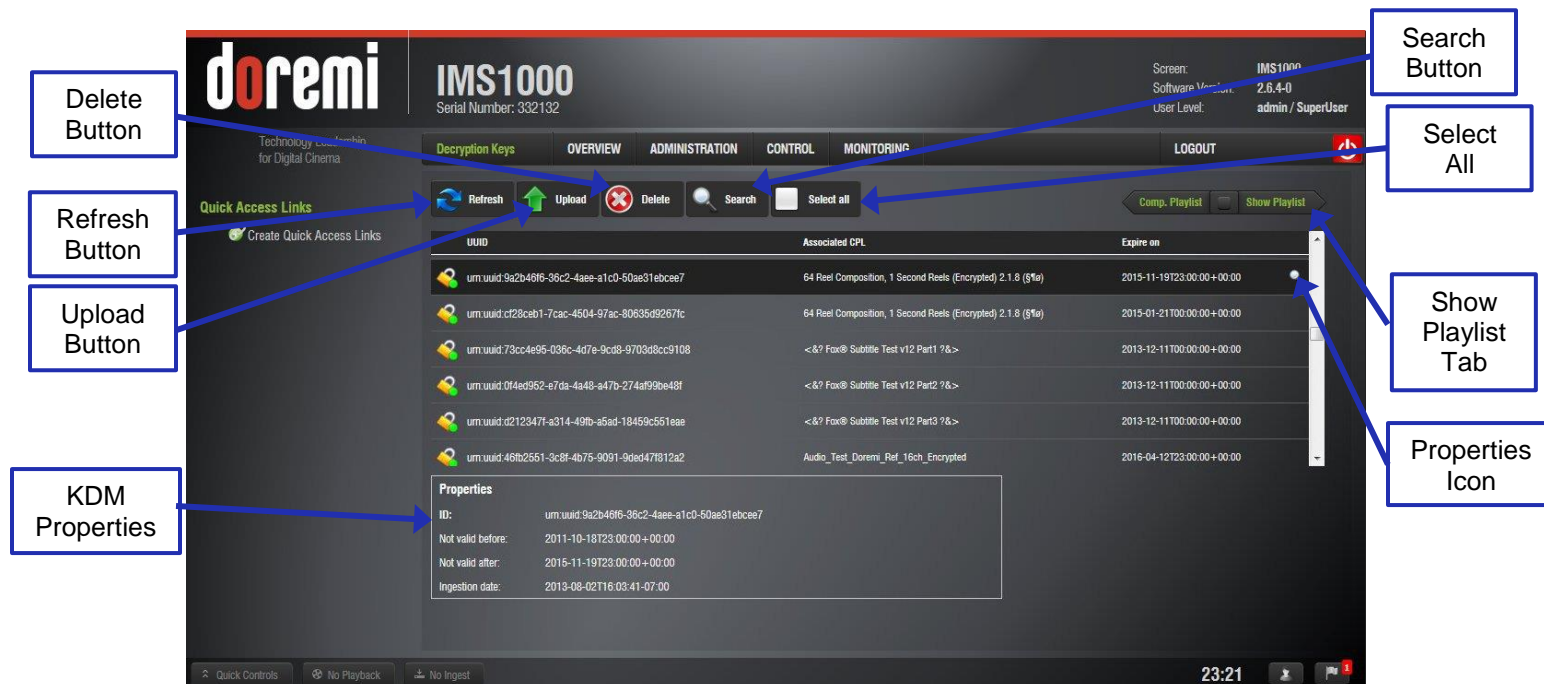

Figure 300: Decryption Keys Tab
- The Decryption Keys page displays the list of all encrypted CPLs on the unit and the corresponding KDMs with a description of the following information (Figure 300):
To select or unselect all of the KDMs, click the Select All button (Figure 300).
Clicking anywhere on the line of a highlighted KDM, or on the Properties icon that appears on the right, will display information about that KDM on the bottom portion of the tab (Figure 300).
To delete a KDM from the server, click on the KDM and click on the Delete button (Figure 300).
To access the Show Playlist tab, click on the green arrow on the right hand side of the GUI in the Decryption Keys and Licenses tabs (Figure 300).